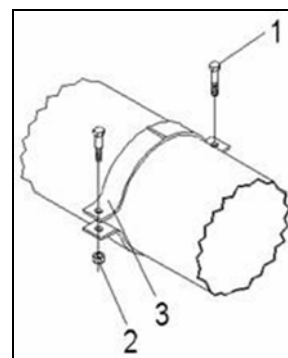

Figure 3.1 U-Clamp
Note: During the installation of all u-clamps (3) on the grain conveyor tubes, they will need to be tightened until the tube begins to deform or crimp. This locks the u-clamps into place to prevent loosening during operation. The term “crimp” will be used to describe this technique throughout this manual. (See Figure 3.1).